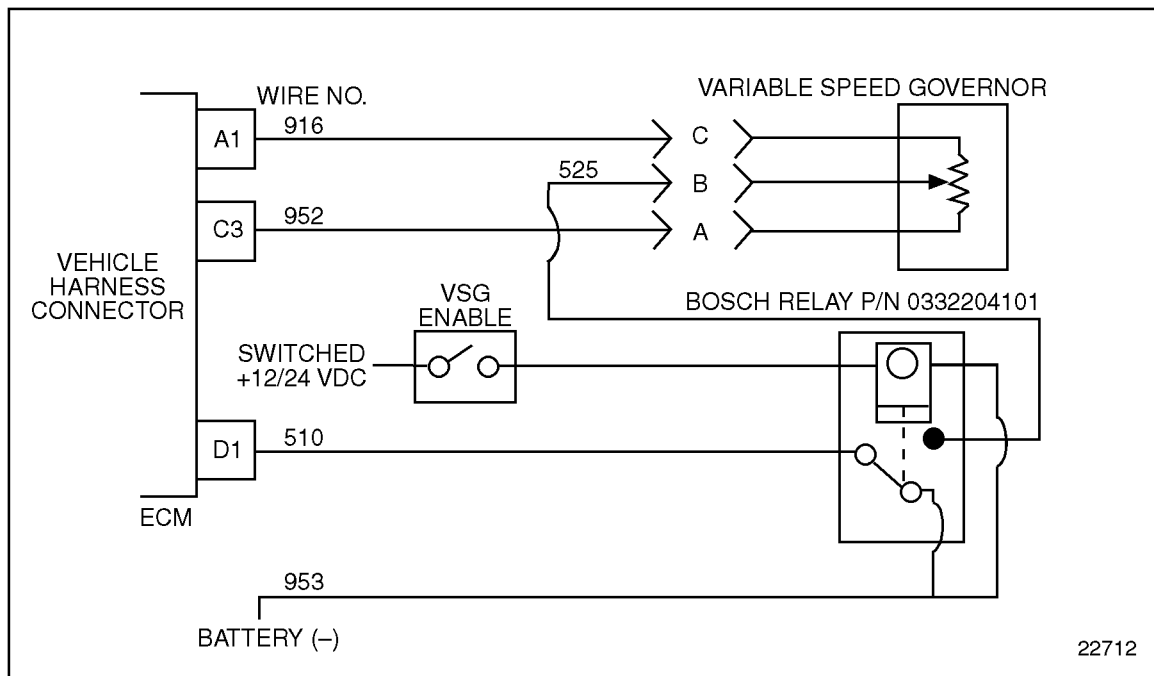

Figure 11-1 Variable Speed Governor Circuit
3. Install a jumper wire between sockets B (#510 signal) and C (5V-#916) of the VSG harness connector. See Figure 11-1.